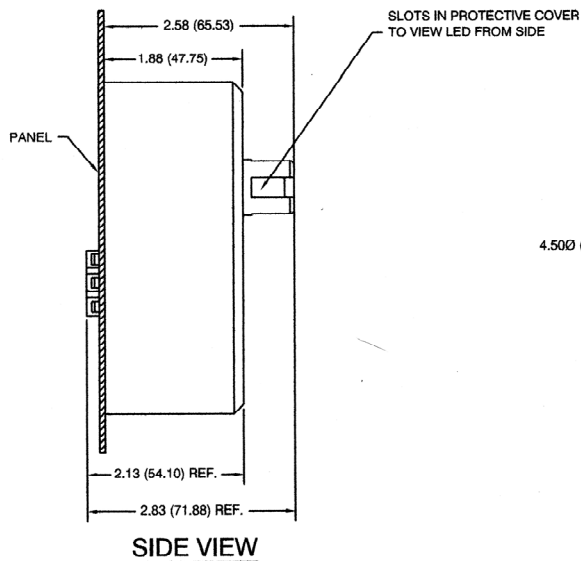

Figure 1
- CYCLOPS Z – Purge Indicator mounts directly to enclosure. (Refer to Figures 1, 2, 3, & 4)